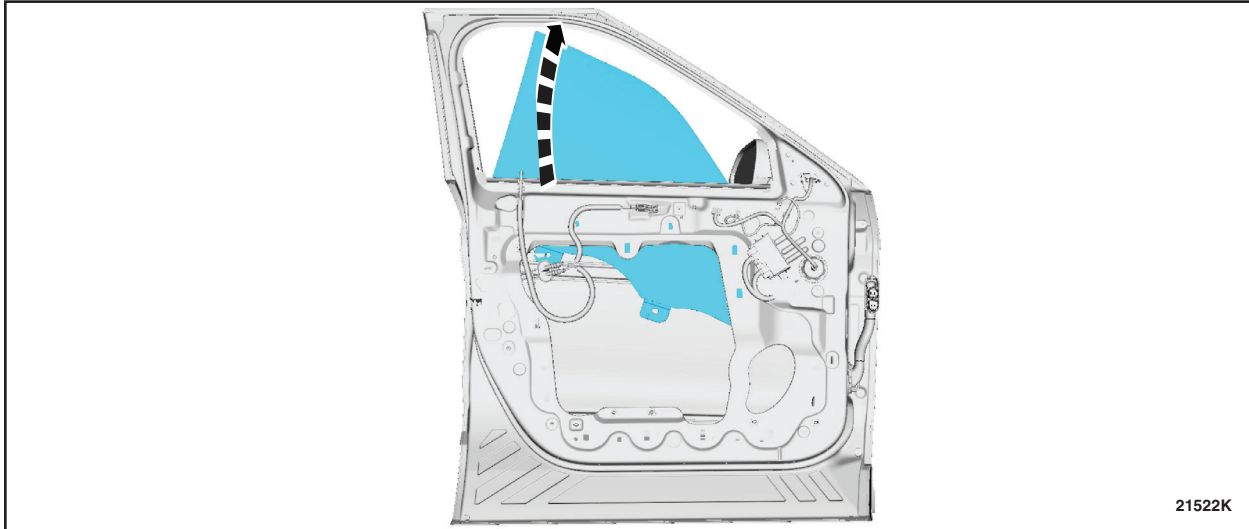

**FIGURE 26**
12. Remove the front door inner belt molding. See Figure 26.